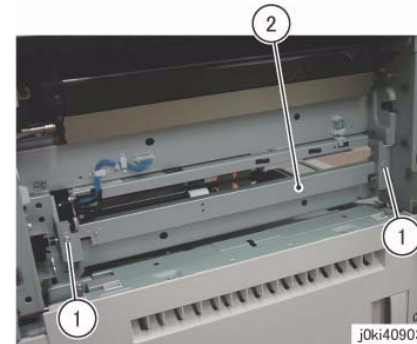

Figure 3 Remove Tray 1 Feeder
8. Remove the Tray 1 Feeder Unit. (Figure 3)